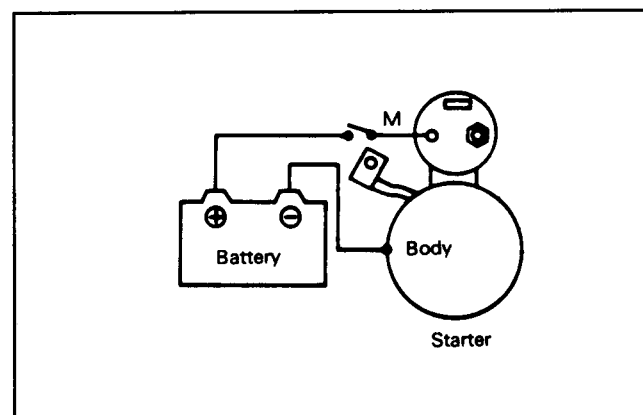

Figure 22
1. Disconnect the wire from terminal "M" (Fig. 22).